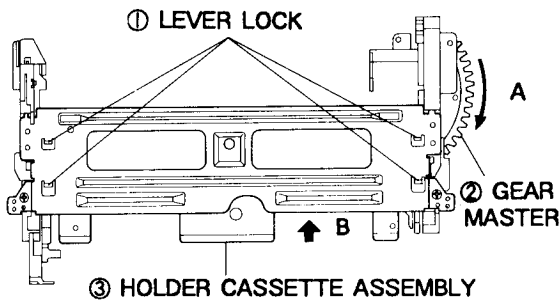

Fig. 66 How to operate the Housing Ass'y
- 1) Push four(4) Lever Locks ① of the housing ass'y Simultaneously. (Refer to Fig. 66)
- 2) Push the holder cassette ass'y ③ toward arrow "B" while turning the gear master ② toward arrow "A". (Refer to Fig. 66)
- 3) Load the gear loading L, R ass'y ④, ⑤ to the middle position of guide rail by turning the gear master ② toward arrow "A". (Refer to Fig. 66, 67)